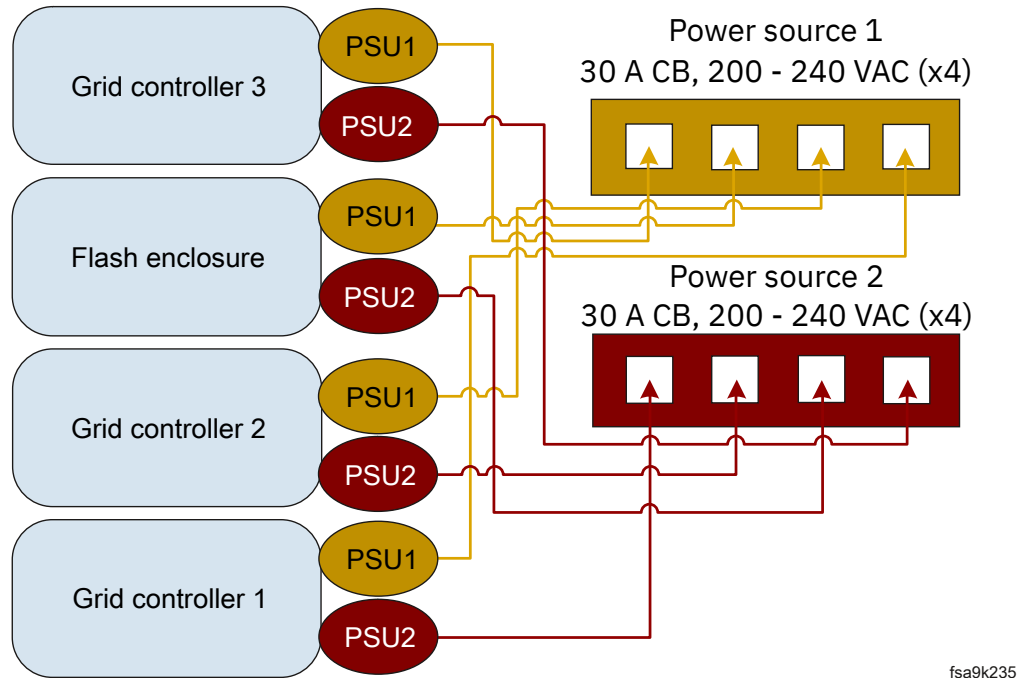

Figure 11. FlashSystem A9000 power sources
Two independent customer-supplied power distribution units (PDU) are required for the two power cords that are needed by each component in the system (total of eight outlets, four per PDU), as depicted in Figure 11 on page 21.
- To eliminate a single point of failure, the PDUs must be independent. This means that each PDU must use a separate power source and each power source must have its own wall circuit breaker (see Figure 11 on page 21).
A FlashSystem A9000 system requires two independent power sources, with minimum four (4) 10 A, 200 – 240 VAC outlets protected with a 30 A circuit breaker (as seen in Figure 11 on page 21).